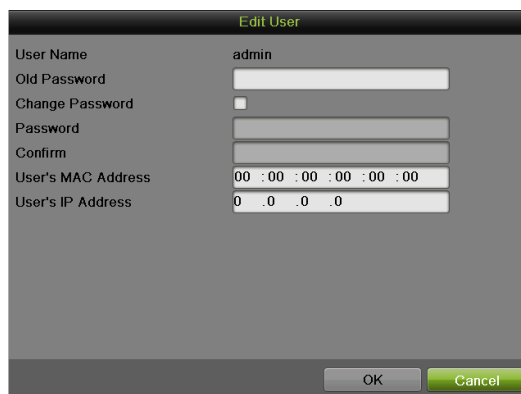

Figure 91 Edit User Menu
1. Click  to pop up the Edit User menu, as shown in Figure 91.
2. Click  to enter the Permission interface, as shown in Figure 91, 92, 93.